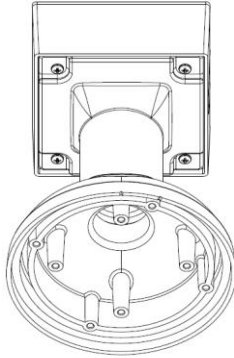

Figure 1: Attach the mount cap and pendant mount
2. Connect top shield, pendant pole and mount together as shown in Figure 1.